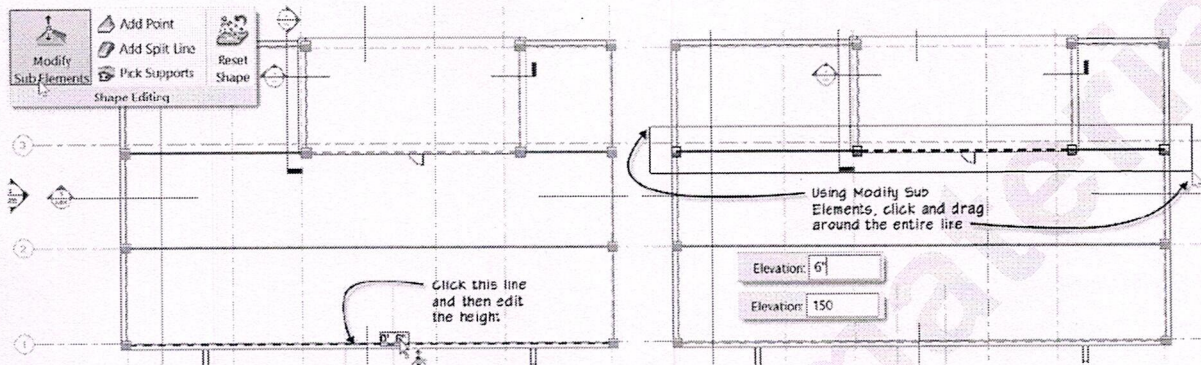

FIGURE 9.54 Edit the height of the split lines
- ⇒ Click in this temporary dimension and input: **6" [150]** and then press ENTER (see the left side of Figure 9.54).